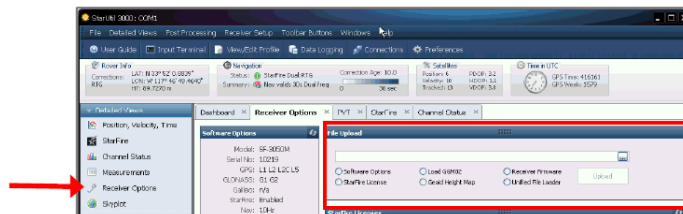

Figura 12: Janela File Upload
22. Coloque a janela *File Upload* na aba *Receiver Options* (ver Figura 12).